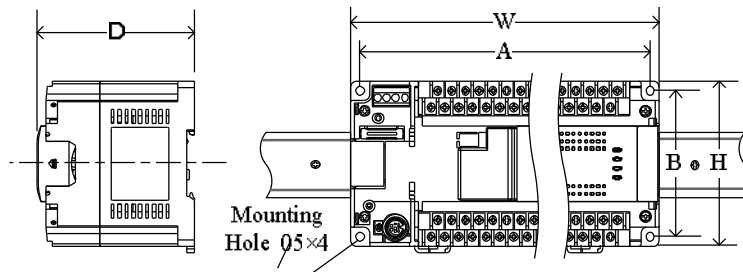

Fig.2-1 Schematic Diagram for Mounting Dimension
- In order to prevent overheating inside the unit, mount the unit in wall- hanging way, as shown in Figure 2-1. The top and bottom should both left more than 300 mm gap.